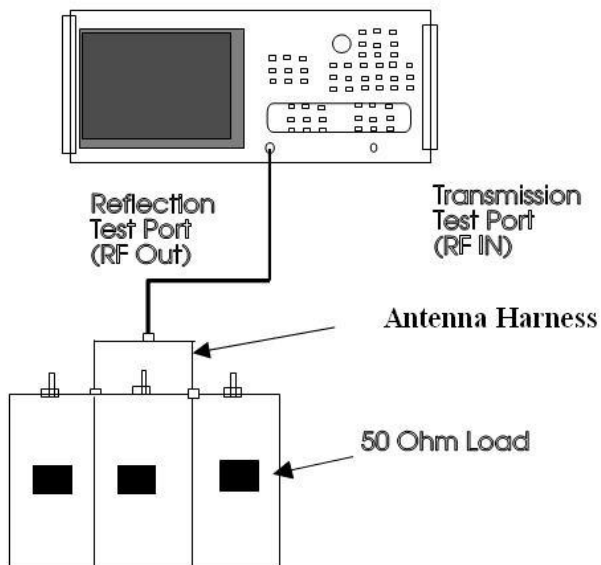

Figure 4 - Output return loss with antenna harness installed
10. With setup as in Figure 4, install harness and tune all cavities to frequency by reading the output return loss. Balance the return loss curve by adjusting the capacitor.